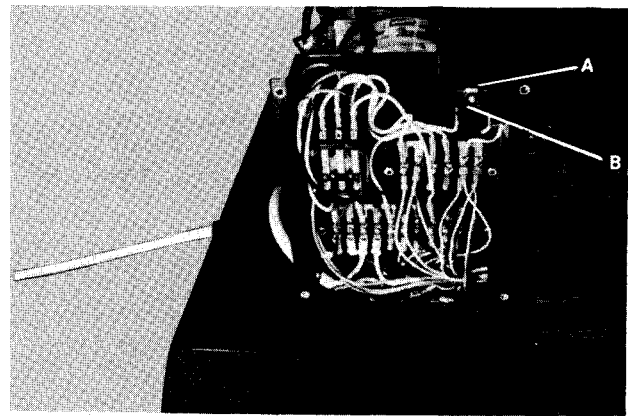

Fig. 35
The time delay relay, Item A, Fig. 35, delays the opening of the cylinder solenoids for 1/10 of a second to avoid momentary drop in up actuations.
- 3) Remove defective time delay relay by removing (1) nut and (1) screw, Item B, Fig. 35.
- 4) Place new time delay relay in position, align holes, and install (1) # 6-32 hex nut and (1) # 6-32 x 1" pan head screw, Item B, Fig. 35.